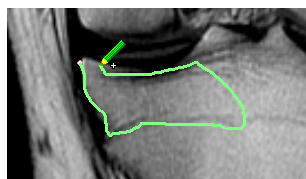

Figure 249 – Drawing a contour with the Freehand tool
4. Press and hold down the left mouse button to draw the contour (see Figure 249).